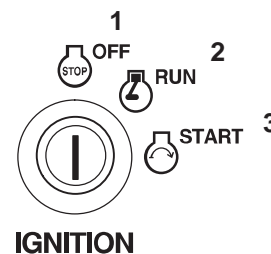

Figure 13
6. Turn the ignition key to the start position to energize the starter. When the engine starts, release the key (Fig. 13).
3. Let the engine idle for 60 seconds (Fig. 13).
4. Turn the ignition key to the off position (Fig. 13).